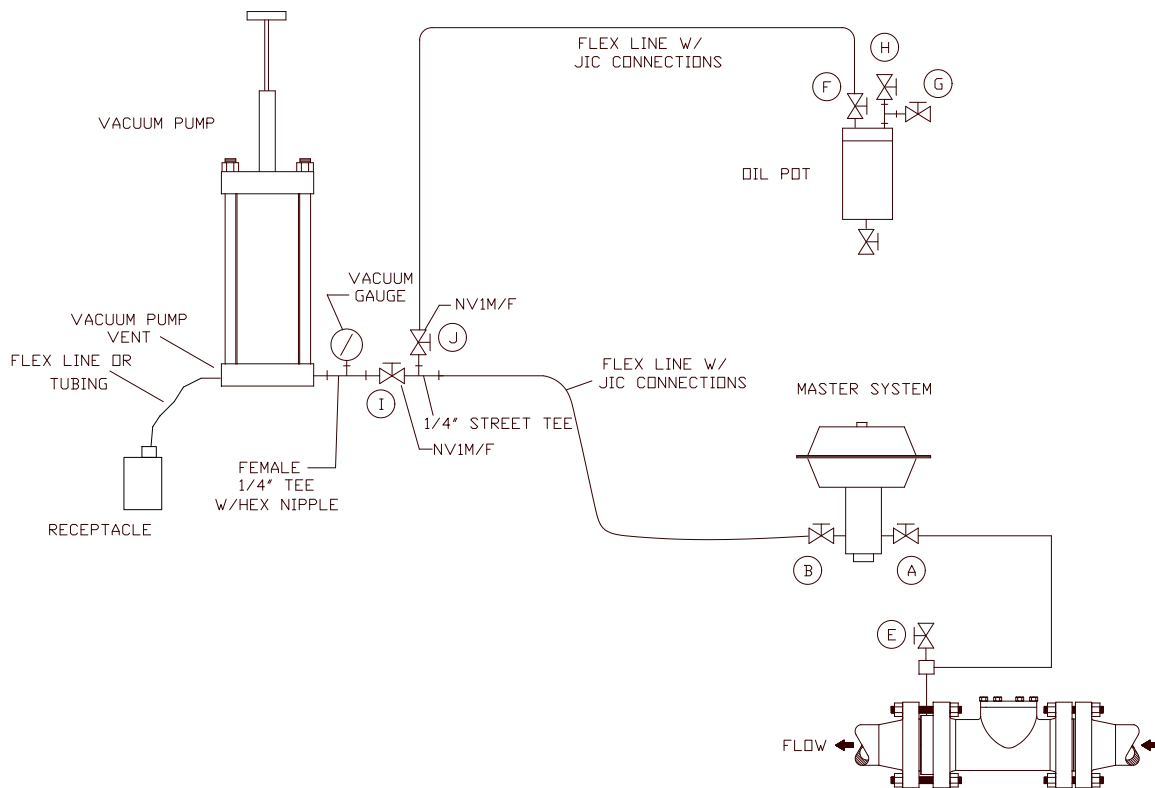

Figure 3
Method # 3 For Filling Hydraulic System (Figures 3 & 4 , Pages 8-12)
Installation of Vacuum Pump and Oil Fill Pot Assembly (Figure 3, Page 10):
1. Connect the vacuum pump to the oil pot by connecting the flex line from outlet valve “F” on the oil pot to valve “J” on the pump (Figure 3).